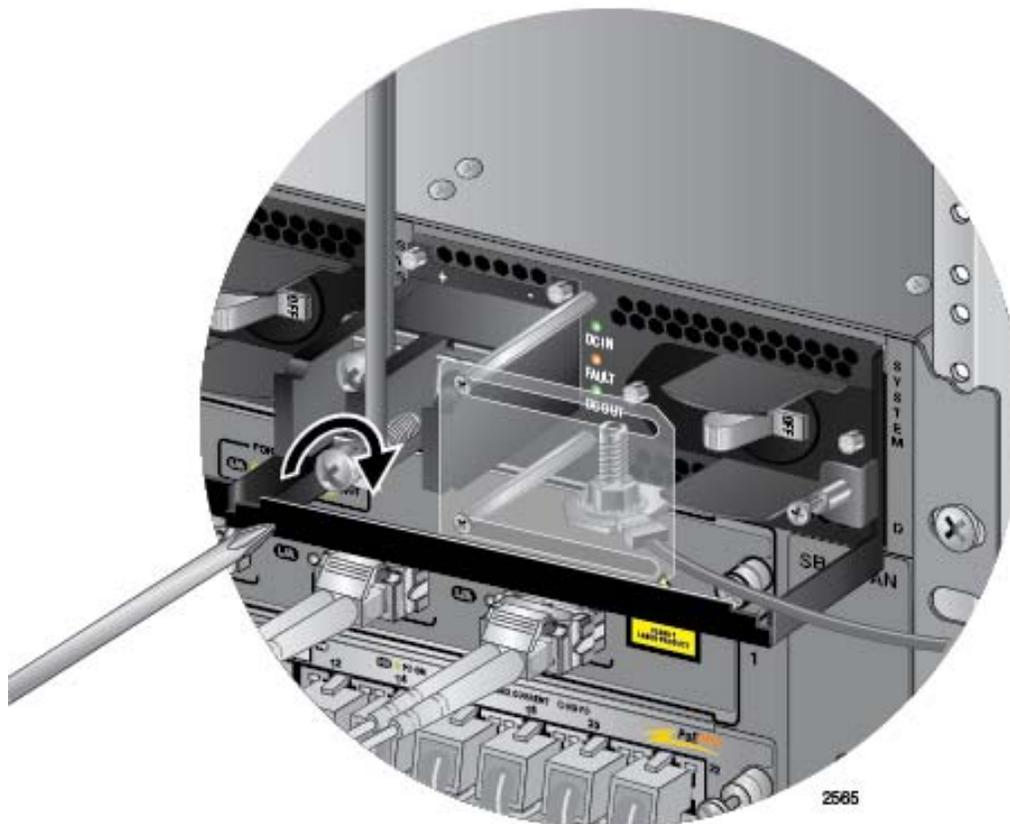

Figure 138. Connecting the Negative Lead Wire
6. Wrap the negative lead wire clockwise around the remaining terminal screw and secure the screw and wire to the negative terminal connection on the terminal block with a #3 Phillips-head screwdriver, as shown in Figure 138 on page 198. The negative terminal is on the right.